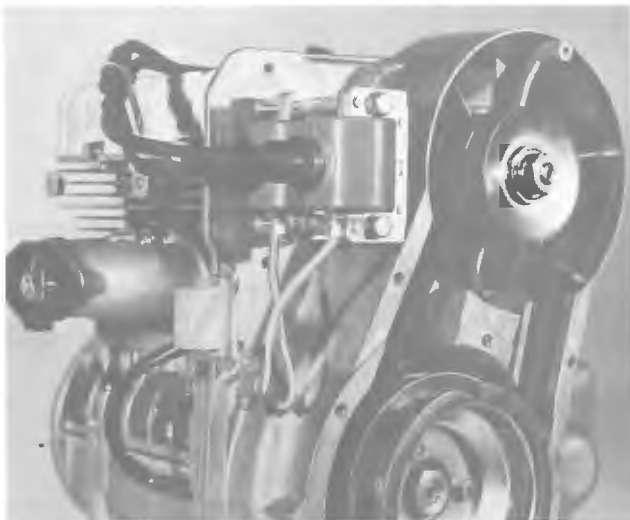

FIGURE 3-2 HIGH TENSION COILS AND IGNITION WIRING
- e. Disconnect coupler attached to fan cover. Remove two bolts securing coil cover to fan cover. Remove cover to expose high tension coils. Figure 3-2